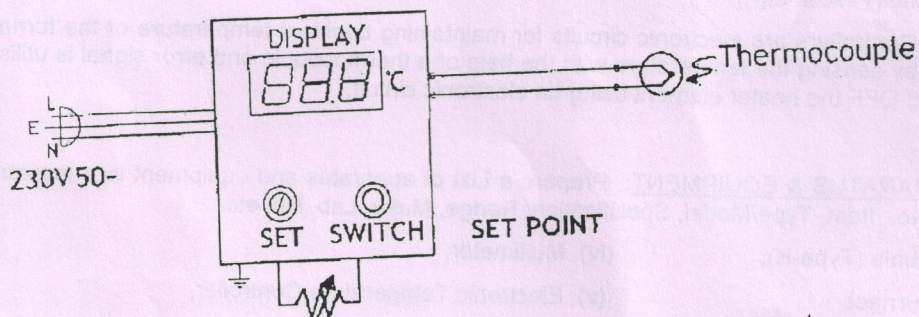

Fig. 1. Controller with Thermocouple sensor and Display
1. Study the ON-OFF Type TEMPERATURE CONTROLLER panel, the connection diagram as per Fig.1 and the CONTACTOR circuit.
2. Connect the thermocouple to the controller as per the given circuit diagram of Fig. 1. DO NOT insert the sensor in the furnace or DO NOT connect the furnace to the circuit.